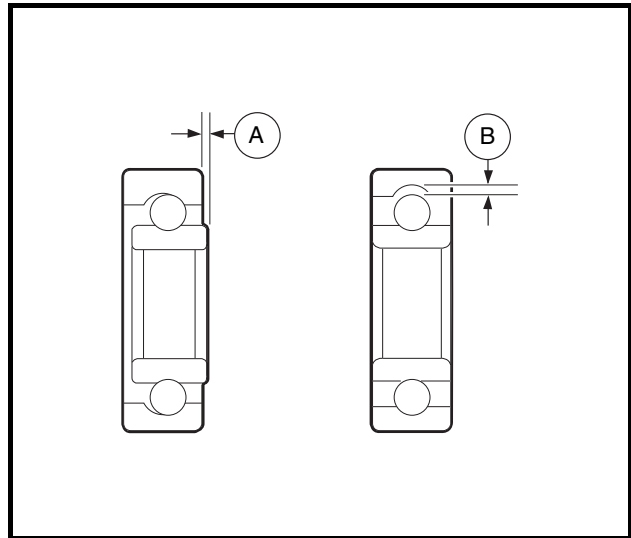

Figure 26-8 Inspect Bearing
1. Use a clean cloth to wipe the carbon dust off of the bearing. Inspect the bearing by spinning it by hand and checking for both axial (A) and radial (B) play (**Figure 26-8, Page 26-7**).